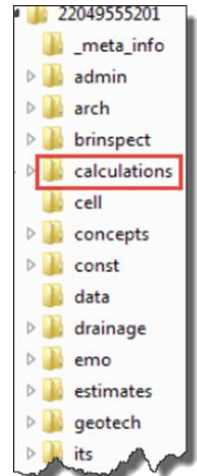

Figure 1 -
- (1) Verify Quantities per CPAM 5.13.5\(A\).
- (2) Ensure all revised **Plan Summary Boxes** are included in the **Final As-Built Plans** per **CPAM 5.12**.
- (3) Ensure all **Plan Summary Boxes** are updated with all additions, deletions, and changes to reflect the actual conditions of the project within 30 days of pay item closeout per **CPAM 5.12.8**.
- (4) Use red font color for any markups.
- (5) Place a **red** check mark in the final quantities column when there are no changes to the contract quantity.
- (6) Enter the final quantity when the contract quantity differs from the final quantity.
- (7) Reference all backup documentation per CPAM 5.13.5 by EDMS number in the Remarks column.
- (8) Use the Excel spreadsheets included in the **CADD_[FPID].zip** or **BIM [FPID].zip** file, in the **Calculations** directory (see Figure 1) to add a new **Plan Summary Box** to the **Final As-Built Plans**. Refer to the CADD Manual. See Attachment 5.13-1.